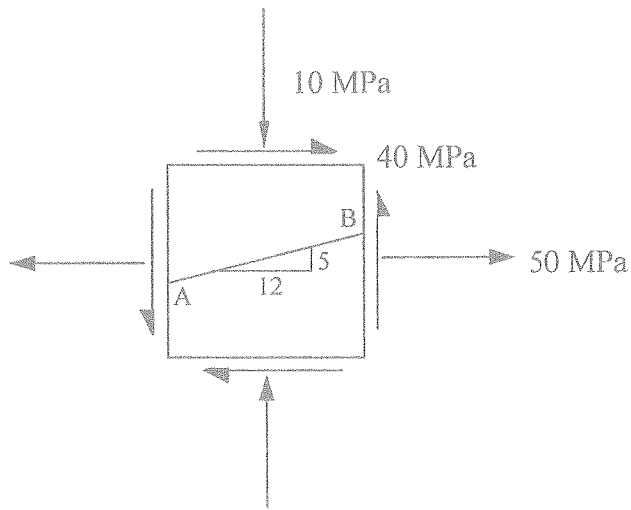

Fig.Q3
- Q3. In-plane normal and shear stresses at a point in a structural body are shown in Fig. Q3.